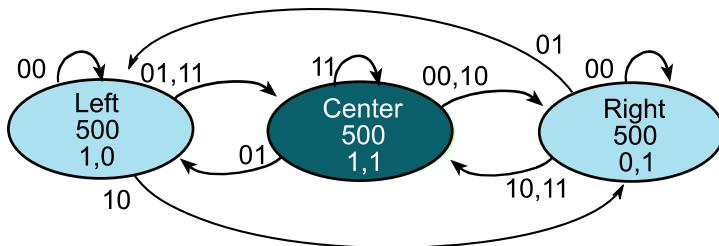

Figure 1. Moore FSM state graph to implement line following. The time in each state is shown in 1ms units.
The Lab07_FSM starter project implements the three-state FSM shown in Figure 1, which we could use to implement a line-following robot. The 500 is the time to wait in each state in ms. On the real robot, we set these delay times to be much shorter, depending on how fast the mechanical robot responds to actuator commands. However, in this lab, the 500 ms is chosen to make it easy to see the output with our eyes.
- 1) The FSM in Figure 1 gets confused (has a bug) if the robot is off little bit to the left (input is 01, and the machine is oscillating between the Left and Center states) and then goes completely off the line to the left (input is 00). In this machine, if it happens to be in the Center state when it goes off the line, it will incorrectly move to the Right state even though the robot went off to the left. You will solve this problem by implementing two left states (so it oscillates between